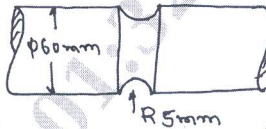

Fig.Q2(c)
c. Determine the maximum stress induced in the semi circular grooved shaft shown in Fig.Q2(c), if it is subjected to (i) An axial load of 40 kN (ii) A bending moment of 400 N-m (iii) A Twisting moment of 500 N-m. Take the stress concentration into account.